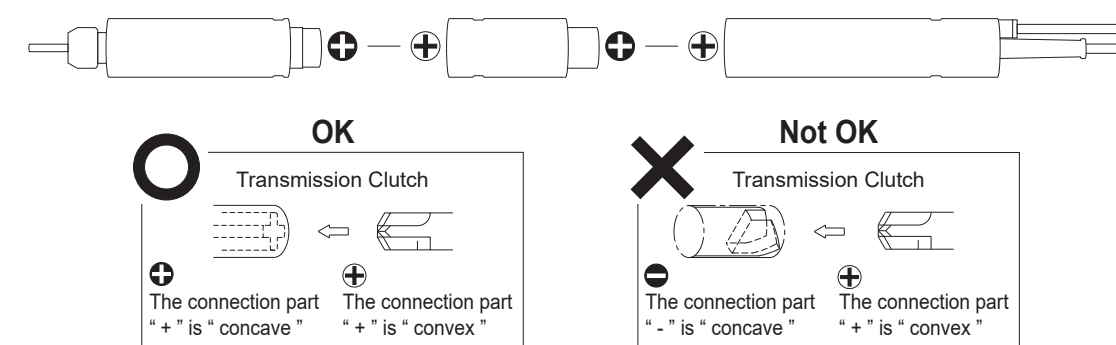

Fig. 8
- The new drive clutch is (+) configuration. The (+) drive spindles were designed to be used with (+) drive Brushless Motors and speed reducers (Fig. 8).